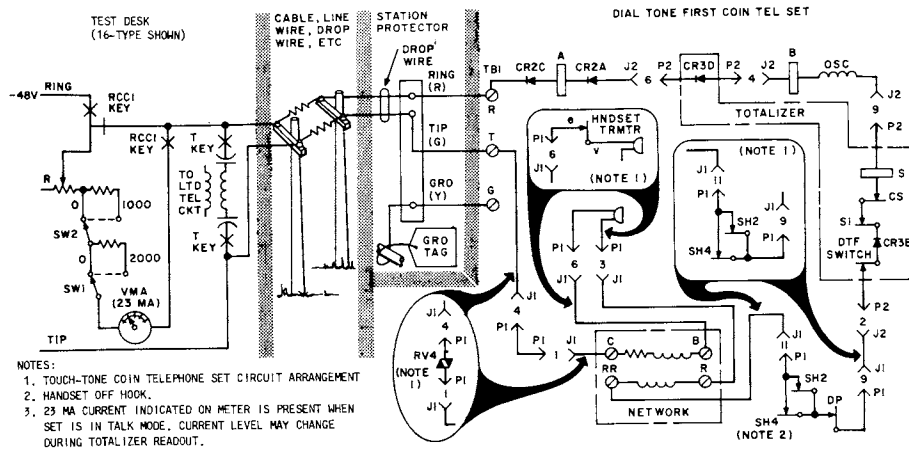

Fig. 2—Totalizer Current Flow Test (Dial-Tone-First)
- (2) Coin Ground Removal Relay Test, Fig. 2.